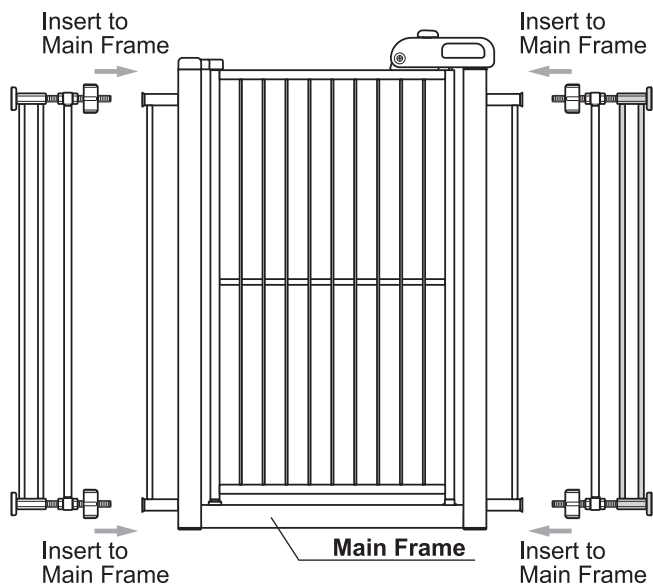

Figure 1
- 3 Insert the Joint Bolts into the holes on either side of the Main Frame as shown in Figure 1 (do this on both sides of the Main Frame).